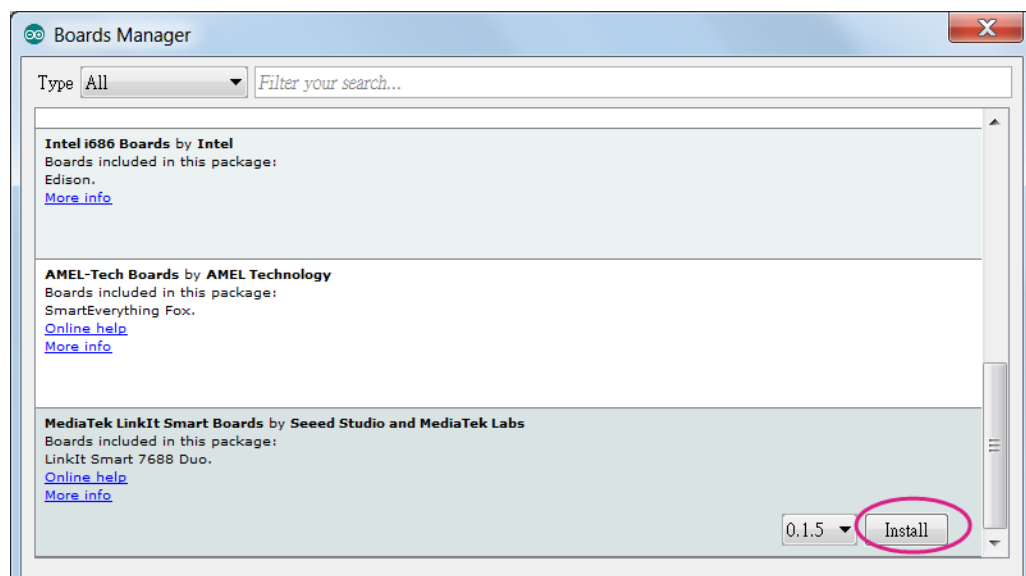

Figure 47 LinkIt Smart 7688 Board Package Menu
- 5) There should now be a LinkIt Smart Boards appearing in the boards list on the Boards Manager as shown in Figure 47. Click the “version” button to select the latest and click Install.